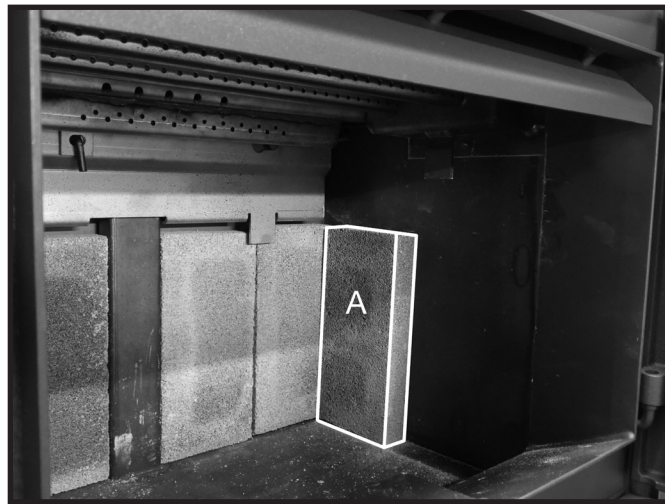

Figure 21: 1st side wall brick in place.
4. For the side walls: Stand an "A" firebrick against the side wall and up against the rear wall firebrick (Figure 21).